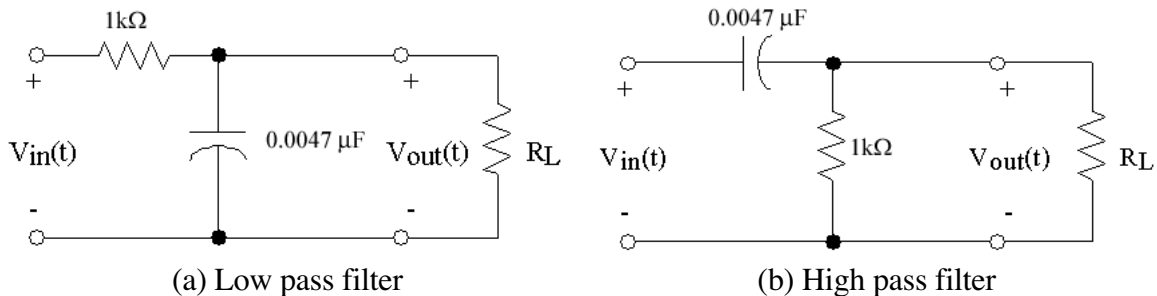
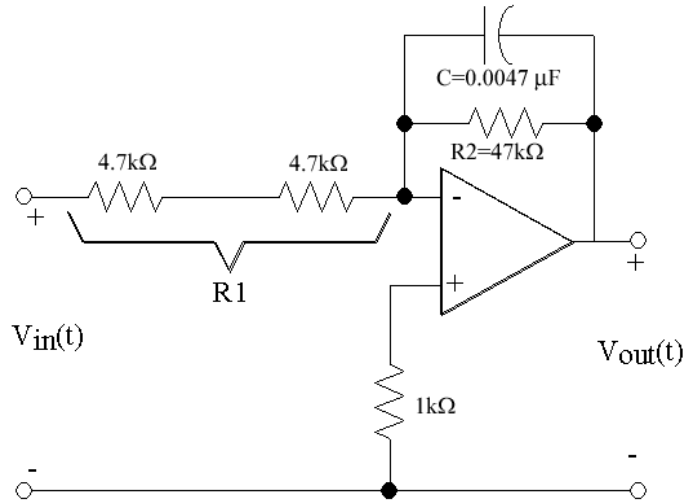
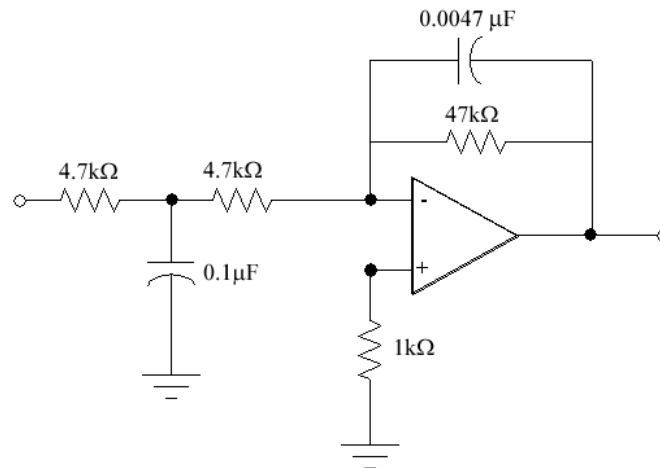

Figure 3. Passive filters.
Figure 4. First Order Active low pass filter.
Figure 5. Second order Active low pass filter.
An active filter is a circuit that includes an op amp as well as having the characteristics of a filter. Recall the circuits for passive high pass and low pass filters. Their circuit diagrams are shown in Figure 3. Note that in each case a load resistor, R_L , has been added to the circuit to make it describe a more realistic situation (there will always be a load on the output of a filter circuit). The frequency characteristics of the filter are dependent upon the load resistor, which is hardly a desirable feature. In this lab you will study a variation of the low pass filter, namely, an active low pass filter as shown in Figure 4. Active filters include an op amp as an integral part of the circuit. The effect of the op amp is two-fold. First, it serves as the source of current for the load that follows the filter, thus eliminating the effect of the load resistance on the characteristics of the filter and, second, it permits adding positive gain to the filter.
Note that in the circuit of Figure 4 there is a capacitor in the feedback loop. This circuit will behave similar to the low pass filter of Figure 3, but with a different cutoff frequency. (Note that the component values in the circuit of Figure 4 are not the same as those in Figure 3.) This is primarily because of non-ideal characteristics of the 741 op amp.
The filter circuits of Figure 3 and Figure 4 are called **first order filters** and they have similar abilities to reject frequencies past the cutoff frequency, i.e., their frequency response rolls off at the same rate. There will be occasions when you would like to have better frequency rejection than is provided by a first order filter. (Perhaps the signal that you are interested in is corrupted by lots of noise.) A filter such as that shown in Figure 5 can provide this increased attenuation of the high frequencies. Note that this filter includes a capacitor in the input network as well as in the feedback network. Such a filter is called a **second order filter**.
The transfer function, $H(j\omega)$, for the active low-pass filter circuit in Figure 4 can be mathematically shown to be
1. Build the active first order low pass filter circuit shown in Figure 4. **Keep the power supply output turned off while assembling the circuit.** NOTE: After completing a set of measurements on this circuit you will be adding a capacitor between the two $4.7k\Omega$ resistors as shown in Figure 5 for step 4, so be sure to leave adequate space.
4. Connect a $0.1 \mu F$ capacitor into the circuit as shown in Figure 5 and repeat Steps (2) and (3) above, recording your data in Data Table 4.